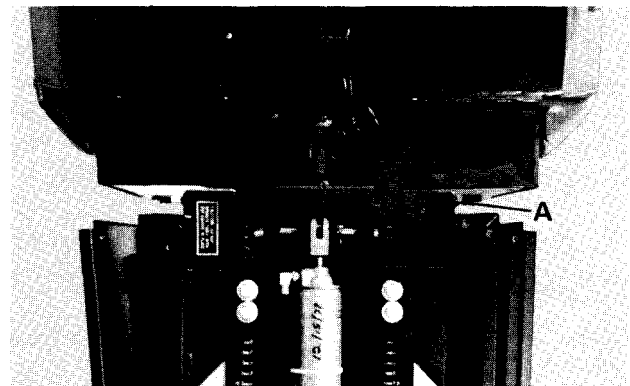

Fig. 21
- a. remove the (2) hose fittings from the defective cylinder with a 1/2" wrench.
**DANGER: WHEN REMOVING THE CLEVIS PINS FROM THE BASE CYLINDERS, THE TWO ASSISTANTS MUST SUPPORT THE TABLE TOP. KEEP HANDS AWAY FROM THE TOP OF THE SLIDES, POINT A, FIG. 21 AND FROM BENEATH THE BASE SLIDING MEMBER. AFTER REMOVING THE CYLINDER, STAND CLEAR OF THE TABLE AS THE TWO ASSISTANTS LOWER THE TABLE TOP. FAILURE TO DO THIS COULD RESULT IN SERIOUS PERSONAL INJURY.**
- 7) Connect the (2) hose fittings tightly to the new cylinder.
- 8) Have the two assistants lift on the table top enabling the clevis pin, Item B, Fig. 21 to be installed along with the cotter pin.
- 12) Fully retract the base cylinder and adjust for a 1/16" to 1/8" gap "A", Fig. 21 above the slides. To adjust for this gap, the clevis (rod end) must be adjusted in or out accordingly. To adjust the clevis, turn the cylinder rod using a 3/8" open end wrench on the wrenching flats, Item C, Fig. 21. The rod will turn easiest when it is extended about half of its total extension.
- 14) Replace "X" brace, align holes, and install (4) 3/8" - 16 x 7/8" hex head bolts and (4) 3/8" lockwashers.